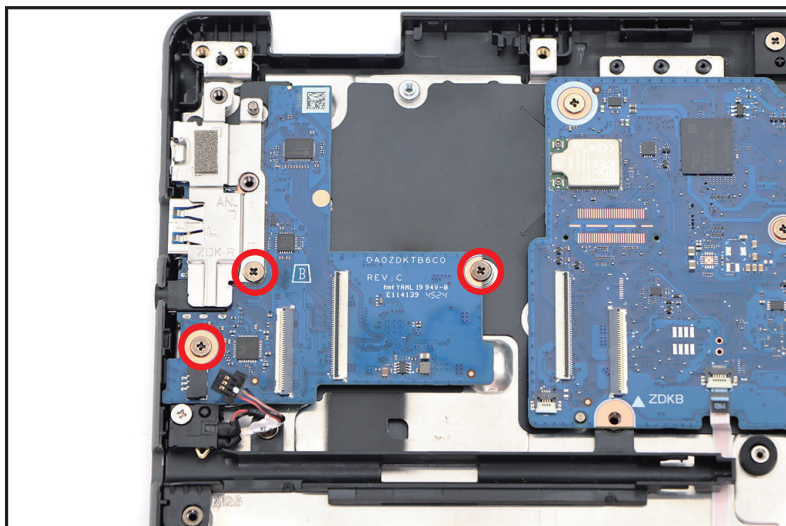

Figure 1-30. USB Board Removal
4. Remove three (3) screws securing the USB board and I/O bracket (Figure 1-30).